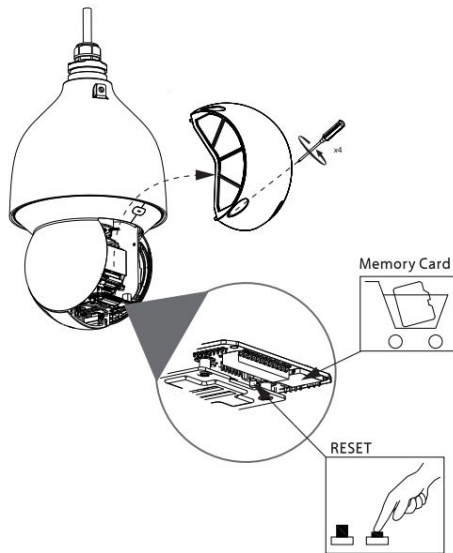

Figure 2-8
**Step 1** See Figure 2-8 for Cover location. Remove the cover. Skip to Step 3 if only installing SD Card.
**Step 2** Slightly press the RESET button for 10-30 seconds to complete the reset function. See Figure 2-8. The camera will reboot when the reset process is complete.
**Step 3 (If installing SD Card)** Adjust the Micro SD Card to a proper direction shown in Figure 2-8.